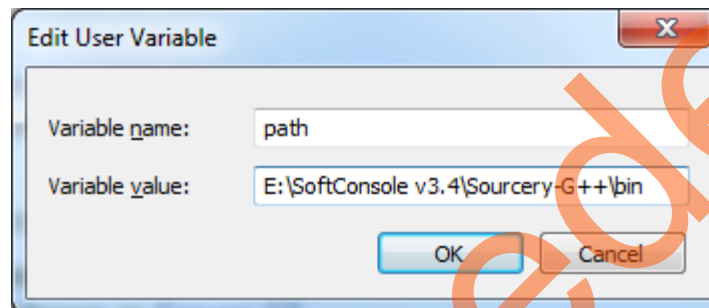

Figure 21. Adding SoftConsole Installation Path
2. Add the SoftConsole installation path, for example, `C:\Microsemi\Libero_v11.4\SoftConsole\Sourcery-G++\bin`, to the ‘Environment Variables’ as shown in Figure 21.